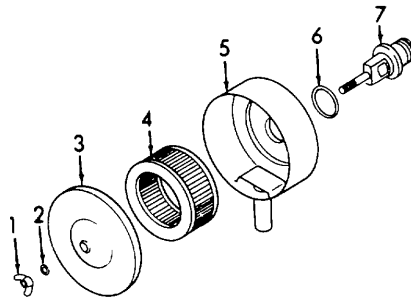

Figure 3-19. Air Cleaner, Removal.
a. *Removal.* (Refer to Figure 3-19).